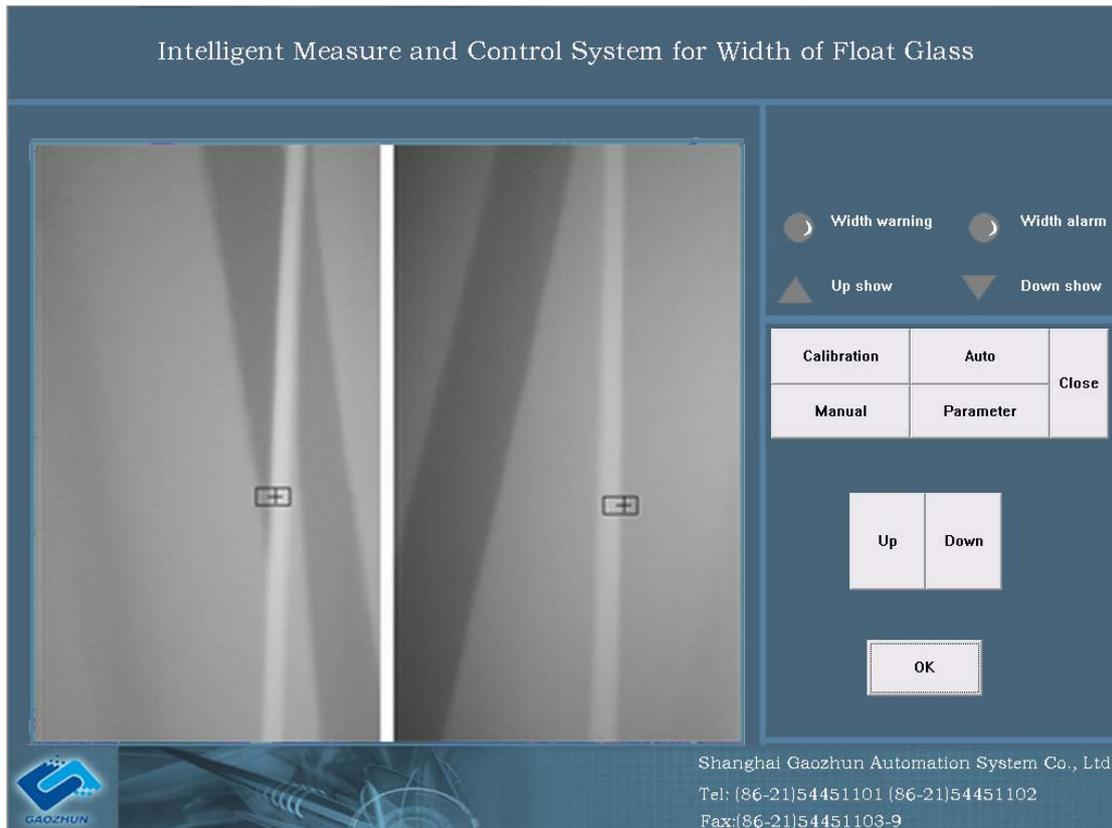

Fig. 9 Interface of Manual Control
5.6 When use the left key of mouse to click the manual control button, the interface appeared is as shown in Fig. 9.